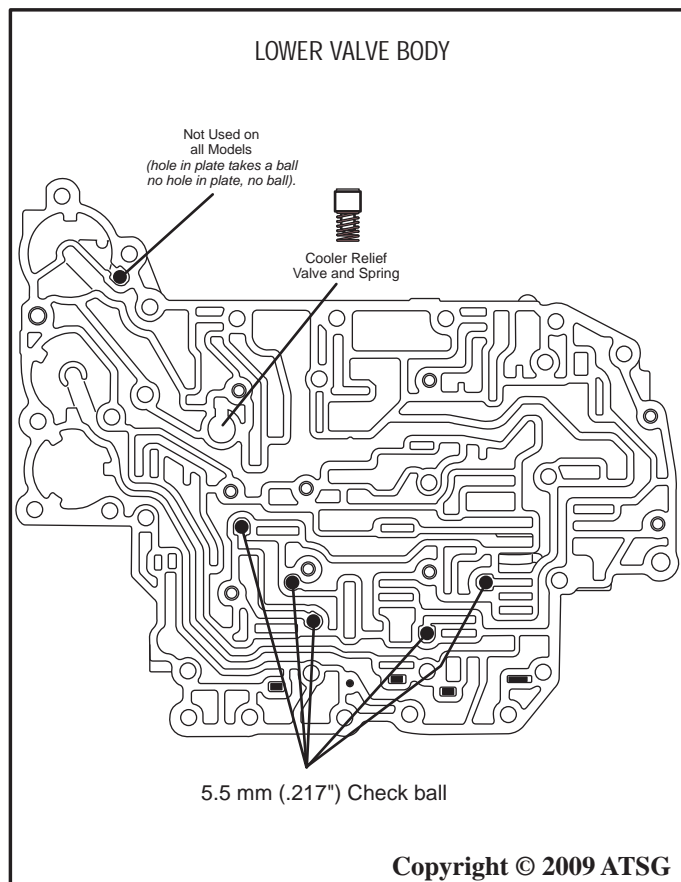

Figure 137
33. Install the five - 5.5mm (.217") check balls into the lower valve body casting as shown below in Figure 137.